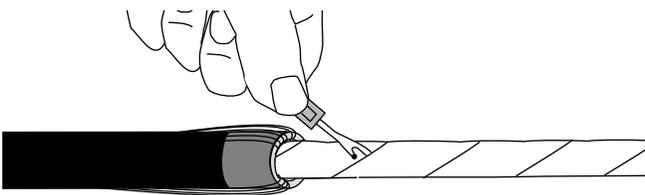

Figure 24
7.5 Working near the end of the cable sheath, use the seam ripper to carefully slit the middle layer of tape at a point where the tape overlaps (Figure 24).